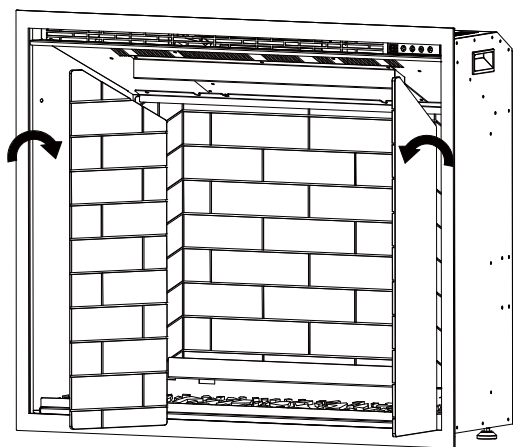

Figure. 3-1
- ① Use the suction cup to remove the side decorative brick panels (Fig. 3-1).